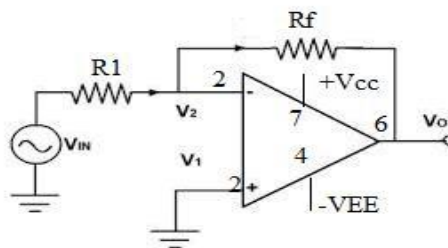

Fig.2.1: Inverting Amplifier
1. Connect the circuit as per the circuit diagram shown in Fig.2.1